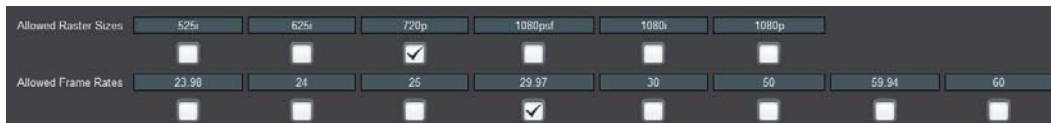

Figure 10.3 Example of Filtering
**Figure 10.3** shows the instance where only 720p and 29.97 are selected, filtering allowed input to only be 720p 29.97 (720p half-rate).